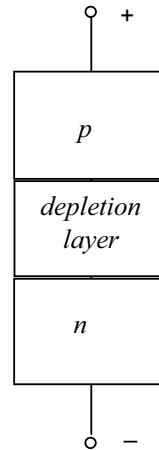

Fig.1.5
**Biasing.** Fig. 1.5 shows a dc source (*battery*) across a *pn* junction. The negative source terminal is connected to the *n*-type material, and the positive terminal is connected to the *p*-type material. Applying an external voltage to overcome the barrier potential is called the *forward bias*. If the applied voltage is greater than the barrier potential, the current flows easily across the junction. After leaving the negative source terminal, an electron enters the lower end of the crystal. It travels through the *n* region as a free electron. At the junction, it recombines with a hole, becomes a valence electron, and travels through the *p* region. After leaving the upper end of the crystal, it flows into the positive source terminal.